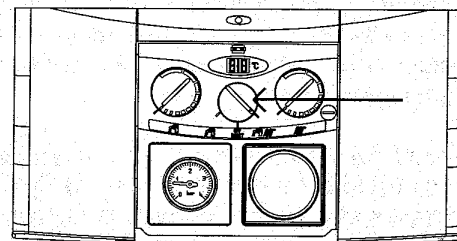

Fig. 4
3.1 With the boiler mode selector switch turned to  (fig. 4), ensure either internal timer or external controls such as time clock and/or room thermostat are calling for heat. The boiler will now go through an ignition sequence and the burner will light.